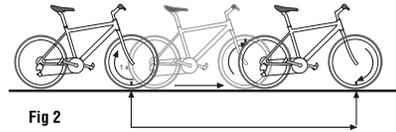

Fig 2
3. Roll-out Test: See Figure 2.